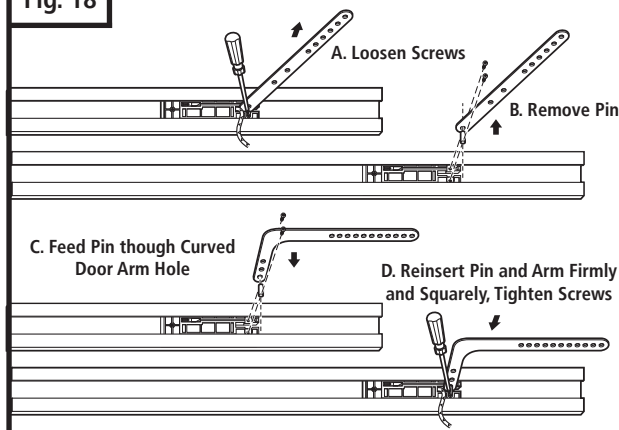

Fig. 18A
- Carefully insert pin and door arm into slot in trolley. Push pin into slot with door arm so pin is fully seated into trolley slot. **IMPORTANT:** Pin must be straight and seated properly into recessed area in trolley. See Figs. 18A and 18B.